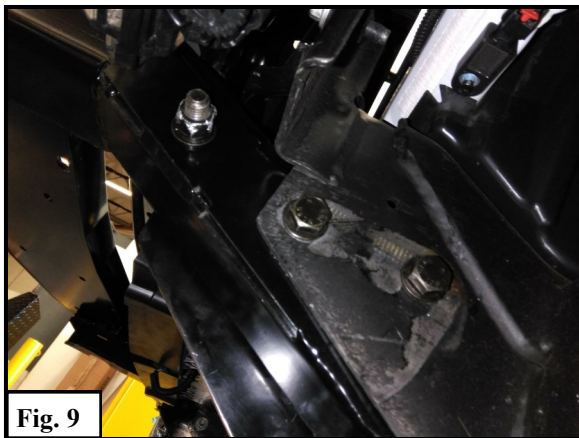

Fig. 9
11. Locate the lower driver mounting brackets for the MAX winch tray. Using the supplied M12 hardware, loosely install the mounting brackets on to the frame. Slide the mounting bracket (3) in between the frame. The support bracket (5) goes under the frame. See **Figure 9 & 10**.